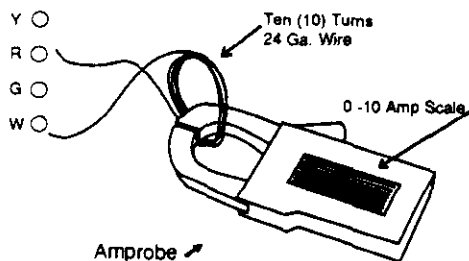

Figure 44 (4-010)
4. Make sure 115-volt power to furnace is on. Connect ends of wire on ammeter across terminals "R" and "W" of thermostat sub-base, following Figure 44.